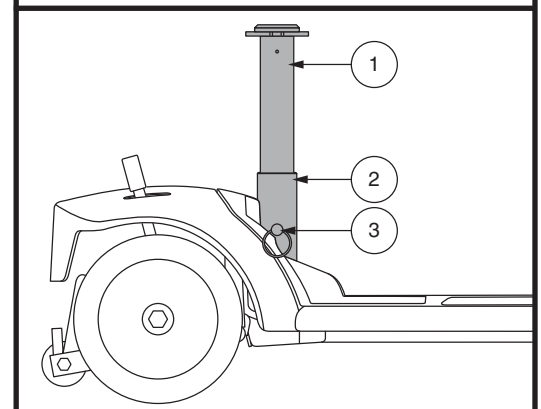

Figure 25. Seat Height Adjustment
The seat can be repositioned to different heights. See figure 25.
2. Remove the upper seat post from the Travel Scooter by removing the detent pin from the lower portion of the seat post, then lifting the post straight up and off the Travel Scooter. See figure 25.